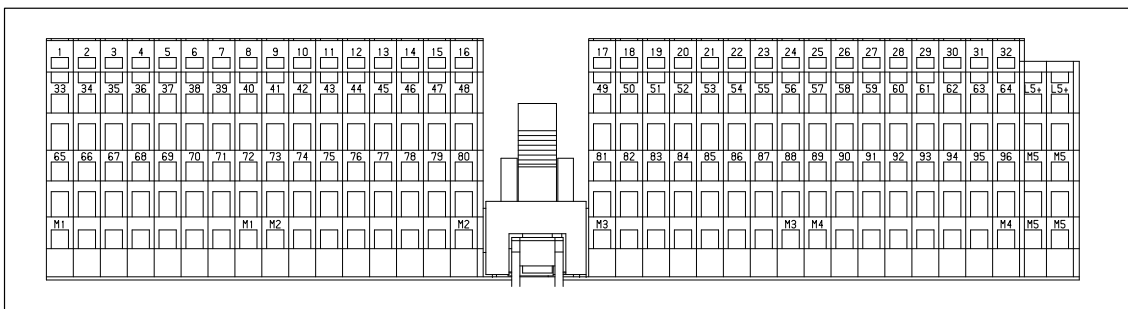

Figure 7-14 Terminal Numbering: Terminal Block TB4M/DC (Spring-Latch Terminal)
**Terminal Numbering** Figure 7-14 is an enlargement of the terminal numbering printed on the TB4M/DC (spring-latch terminal).